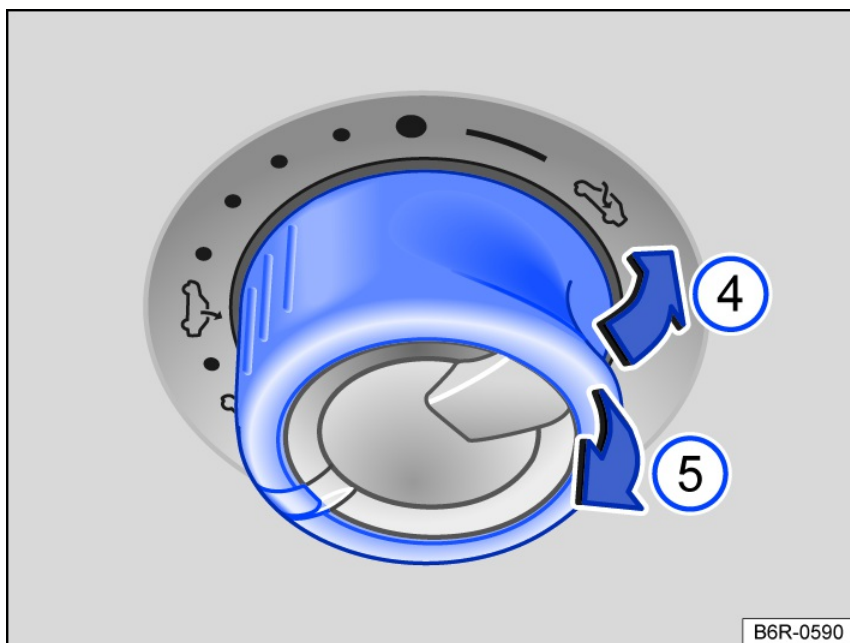

Fig. 56 In the headliner: pushing the switch to raise and pulling the switch to close.
1. Briefly press the switch to the rear fig. 56.
1. Briefly press or pull the switch fig. 56 or ⑤ again.
1. Briefly pull the switch fig. 56 to the rear.